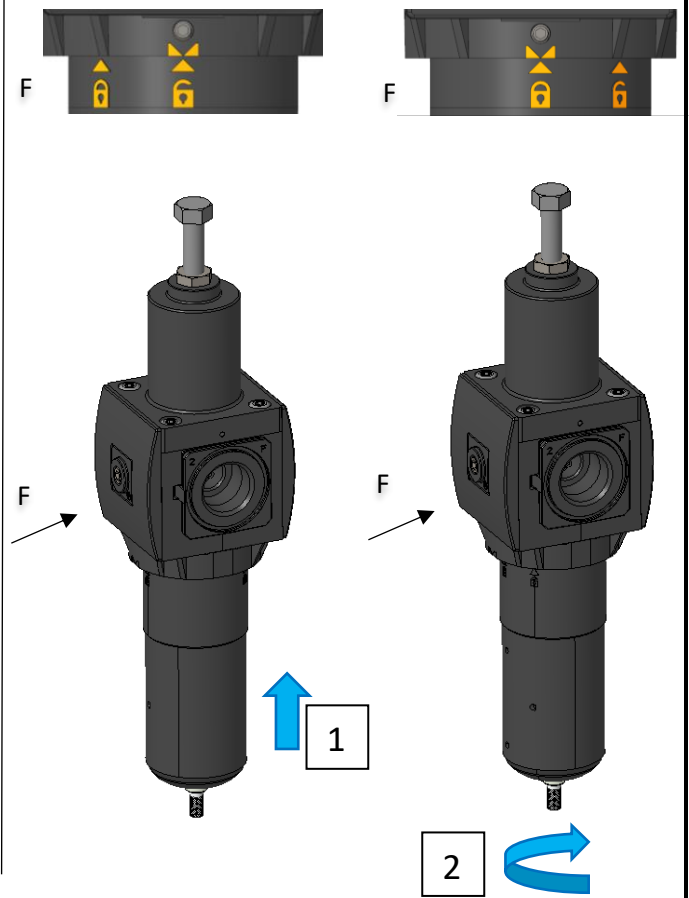

FIG. 18
5. Replace manual drain/auto drain on bowl and assemble bowl on bottom side of the body (as shown in fig. 18)